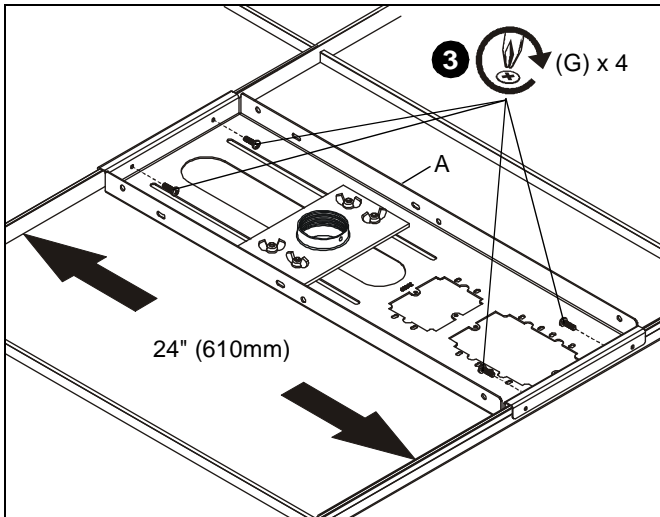

Figure 7
2. Reinstall CMS440 assembly (A) on top of ceiling tile so that extension column support is centered over hole in tile.
3. Position CMS440 assembly (A) with four screws (G) as required:
- **For 24" (610mm) Framework:** Install screws through end bracket *inside* holes (See Figure 7).